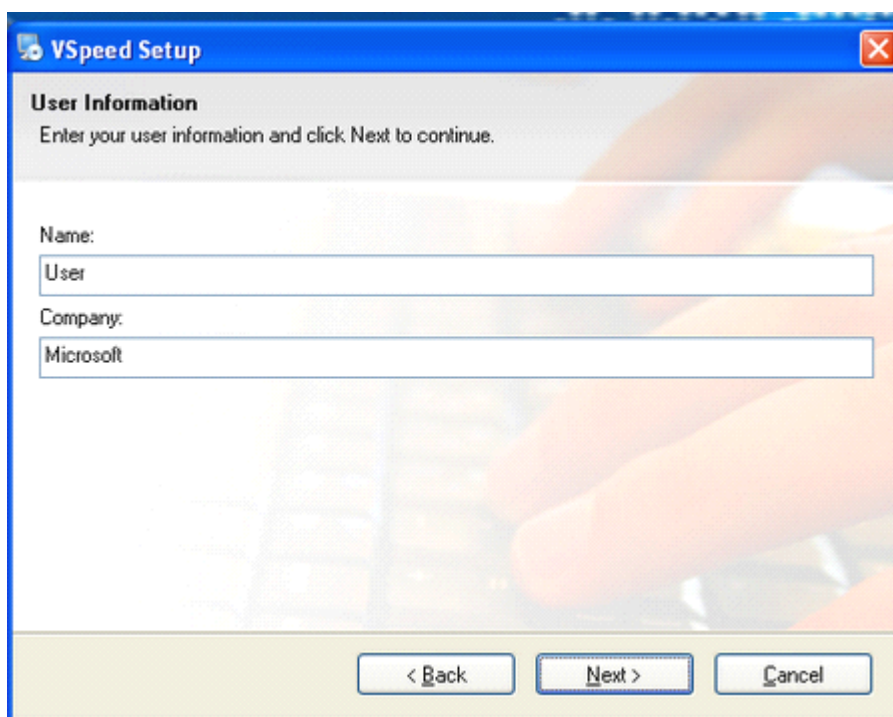

Figure 2: VSpeed Setup Enter the user information
(2) Click "Next" button. The window as Figure 2 is showing. You can fill your name & the name of your company. However you can accept the default information.